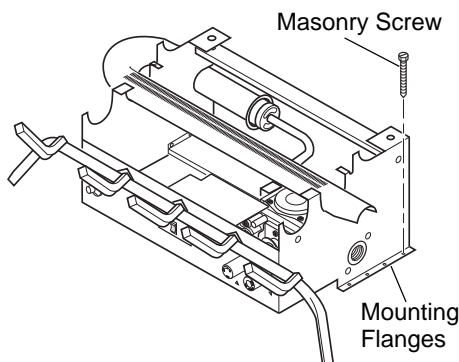

Figure 12 - Attaching Base Assembly to Fireplace Floor
7. Mark screw locations through one hole on each side of the mounting bracket (see Figure 12, page 11). If installing in a brick-bottom fireplace, mark screw locations in mortar joint of bricks.